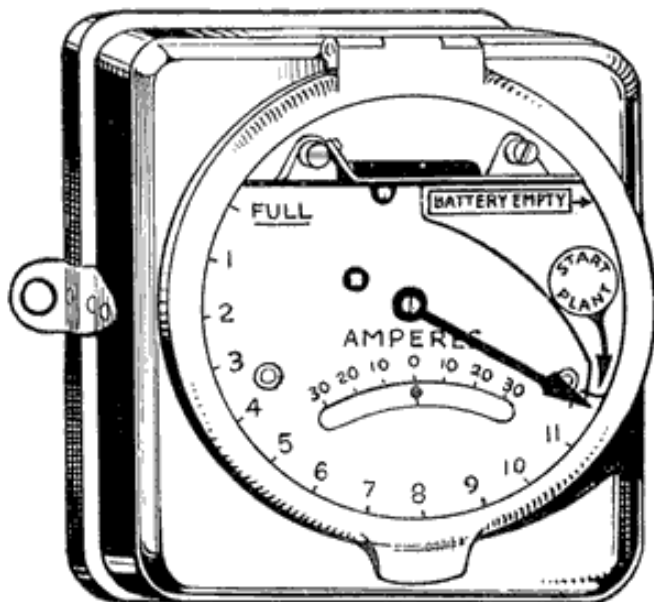

Fig. 304. Delco-Light Ampere-Hour Meter
**The ampere-hour meter**, Fig. 304, is an instrument for indicating to the user the state of charge of the battery at all times and serves to stop the plant automatically so equipped, when the battery is charged. (Further mention will be made of the ampere hour meter on page 471.)